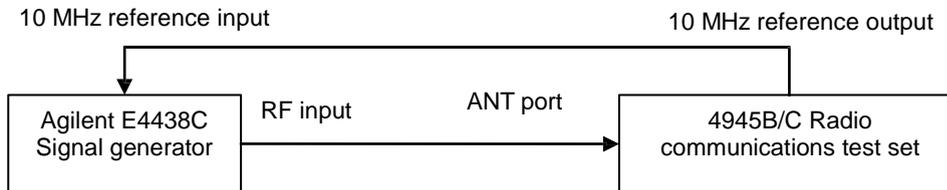

Fig. 6-11 Block diagram for sweep spectrum characteristics tests
1) As shown in Fig. 6-11, connect the test instrument, set the output frequency of the signal generator to 300 kHz and the amplitude to -10 dBm; set 4945B/C to the sweep spectrum mode with the center frequency of 300 kHz, the sweep of 100 kHz, the reference level of 0 dBm and the resolution bandwidth of 3 kHz;
1)As shown in Fig. 6-11, connect the signal generator to the ANT port of 4945B/C, and set 4945B/C to the sweep frequency spectrum mode; set the input frequency of the signal generator to 300 MHz; set the center frequency of 4945B/C to 300 MHz, sweep width to 100 kHz, and other parameters to auto;
1) As shown in Fig. 6-11, connect the signal generator to the ANT port of 4945B/C, set the output frequency of the signal generator to 300 MHz and the power to -10 dBm; set 4945B/C to the sweep frequency spectrum mode, with the center frequency of 300 MHz and the reference level of 0 dBm;
1) As shown in Fig. 6-11, connect the signal generator to the ANT port of 4945B/C, set the output frequency of the signal generator to 300 MHz and the amplitude to -10dBm, enable AM with the modulation rate of 100 Hz and the AM depth of 100%; set 4945B/C to the sweep spectrum mode, with the center frequency of 300 MHz, the sweep of 0 Hz, the reference level of 0 dBm, the amplitude unit of Volts and the sweep time of 100 ms;
- 1) As shown in Fig. 6-11, connect the signal generator with the ANT port of 4945B/C, and set 4945B/C to the broadband power measurement mode;
- 1) As shown in Fig. 6-11, connect the signal generator to the T/R port of 4945B/C, and set the output frequency of the signal generator to 300 kHz and the amplitude to + 19 dBm. Set 4945B/C to the RF RX mode, narrow-band power measurement reference carrier to 300 kHz, reference level to +51 dBm, and IF bandwidth 10 kHz; record the measured narrow-band power value of the T/R port in corresponding space of Table A.1;
- 1) As shown in Fig. 6-11, connect the test instrument and set the output frequency of the signal generator to 300 kHz and the power to - 10 dBm; set 4945B/C to the RF RX mode, with the reference carrier frequency of 300 kHz, IF bandwidth of 10 kHz, and reference level of 0 dBm; enable the function of frequency error meter, and record the measured frequency error value in corresponding space in table A.1;
- 1) As shown in Fig. 6-11, connect the signal generator to the ANT port of 4945B/C, set the output frequency of the signal generator to 300 kHz, the output amplitude to -10dBm, and enable AM with the modulation rate of 20 Hz and the AM depth of 50 %;